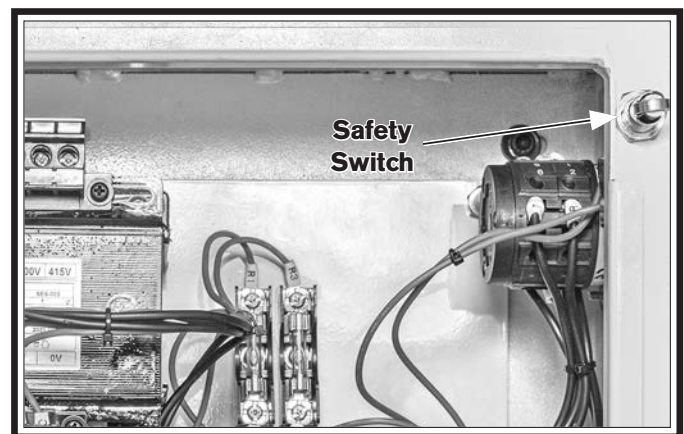

Figure 30. Electrical cabinet safety switch.
18. Open electrical cabinet door until safety switch (see **Figure 30**) in upper right-hand corner is fully extended.